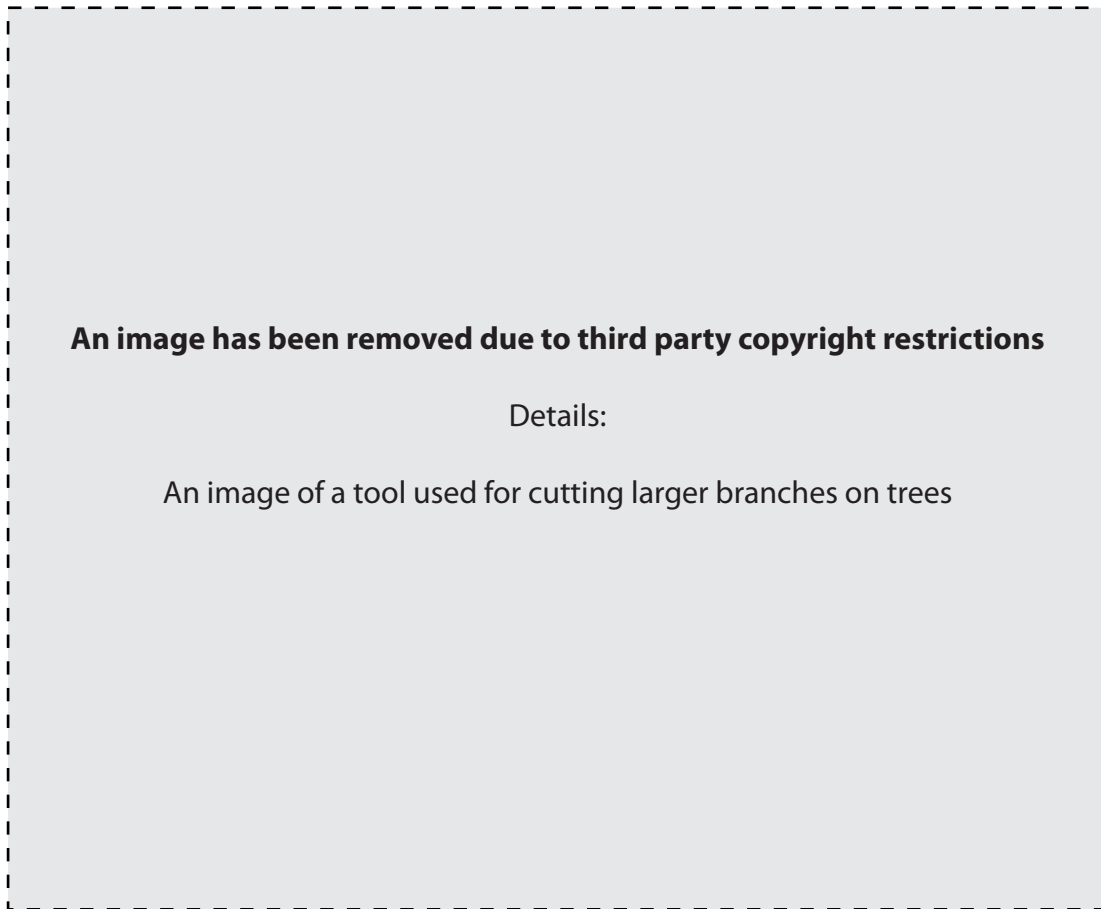

Fig.7
- (b) Fig.7 shows a garden tool that is designed to cut larger branches on trees.